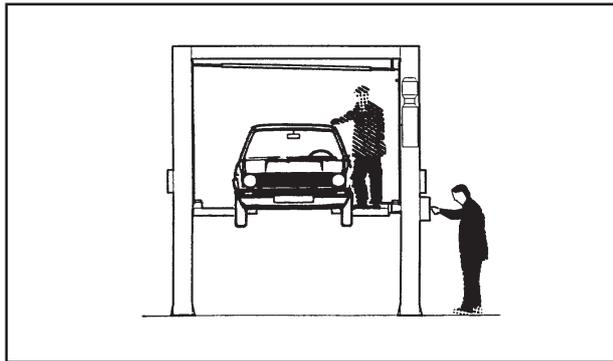

Fig.26
**E' VIETATO SALIRE SUL VEICOLO E/O METTERLO IN MOTO CON IL SOLLEVATORE INNALZATO (Fig.26).**
**NEVER BOARD THE VEHICLE AND/OR TURN THE ENGINE ON WHEN LIFT IS RAISED (fig.26).**